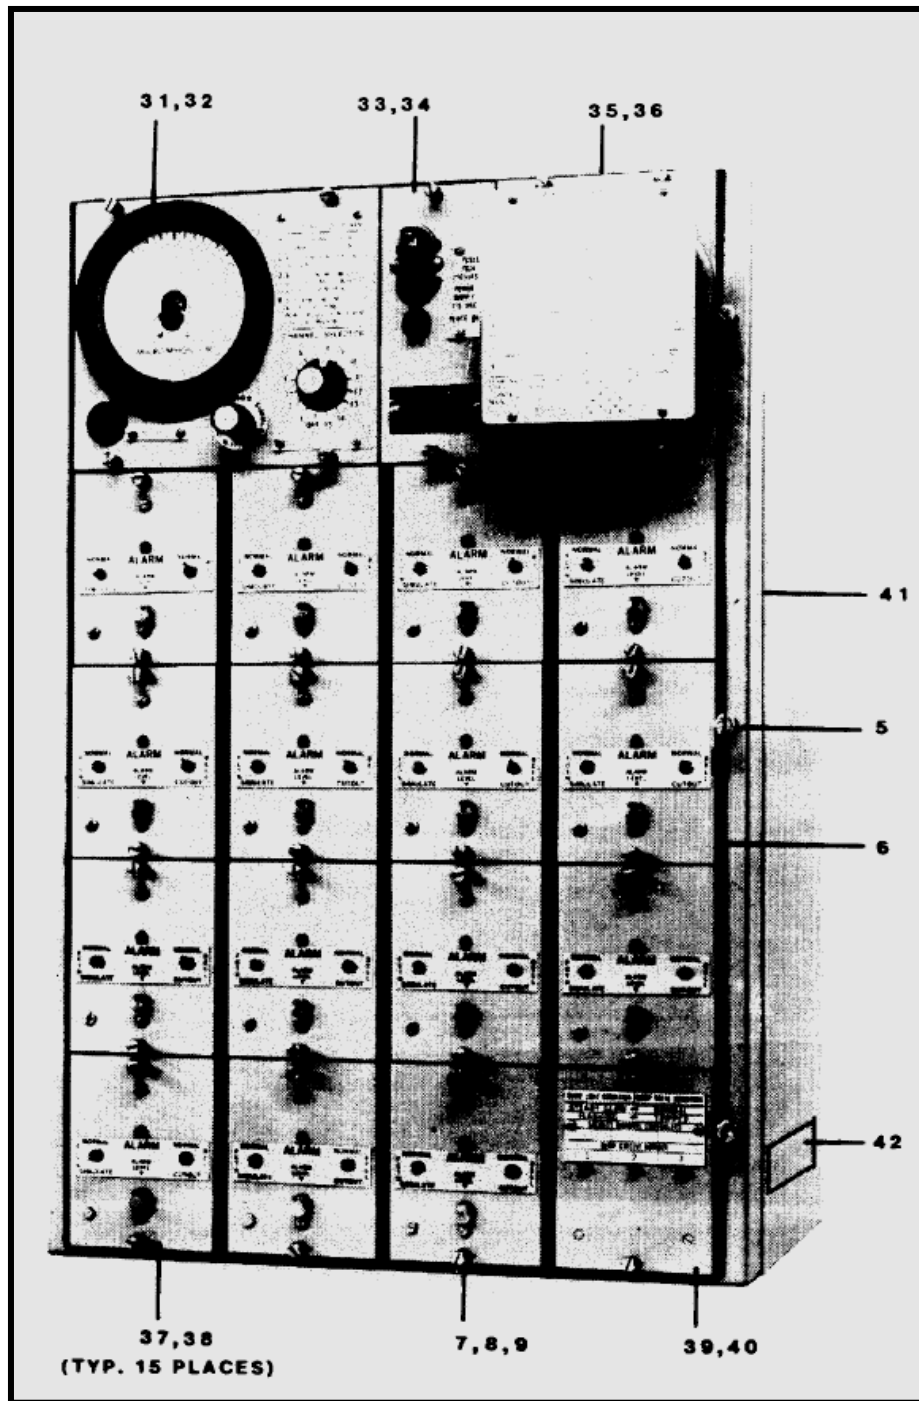

Figure 10-74.— Main Assembly (Exterior) IC/SB15B.
The salinity indicator panel (fig. 10-74) indicates to the operator by meter indication the salinity level of the water at various points in the distillation process. The salinity indicator panel has switches and alarm indicating lamps for each salinity cell in its system, as well as an alarm lamp to indicate that the dump valve solenoid has "tripped" and water is being diverted from the potable water tanks. The meter indicating unit is calibrated in epm.
**VALVE POSITION AND METER TEST UNIT.**— The valve position and meter test module (fig. 10-74) is provided with a green valve position indicator lamp and a meter test switch. The dual purpose of the unit is to indicate when the control valve is in the NORMAL or ABNORMAL position and to provide a means of testing the meter unit.
**RELAY UNIT.**— The relay module (fig. 10-74) consists of an alarm relay, K2, and two 2-second delay flashers. (For simplicity, only one flasher is shown.) The flasher is used to delay the tripping time of the solenoid-operated valves. Normally, the current through the delay flasher contact circuit is not sufficient to open the flasher contacts. However, if terminal 5 of the relay unit is energized from an associated salinity cell, the flasher contact will open, de-energizing control power relay K1-1 and causing contacts K1-1 to open. This action de-energizes the valve control circuit, causing the valve to actuate.